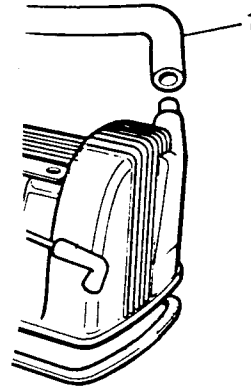

Fig B4.64
- (7) Refer to Fig B4.64. Disconnect the engine breather hose (1) from the cam cover.
- (14) Connect the engine breather hose to the cam cover (Fig B4.64).